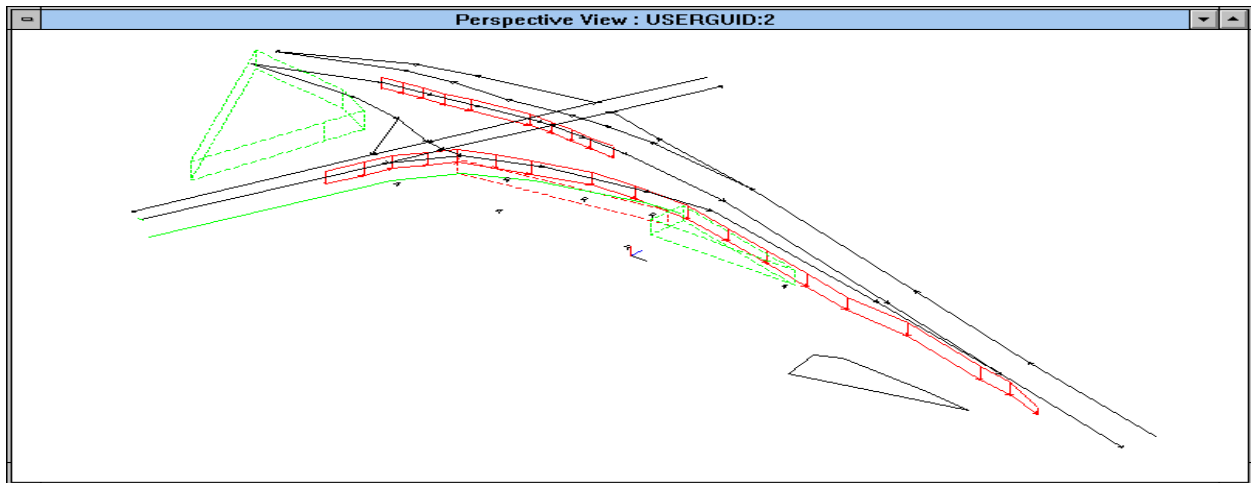

Figure 12. Perspective view.
6.1.4 Perspective View. A perspective view is essentially the Plan View from a perspective viewpoint (see Figure 12). TNM provides several ways to manipulate the view angle and area, i.e., by zooming, panning, and rotating (see Section 6.3 through 6.7).